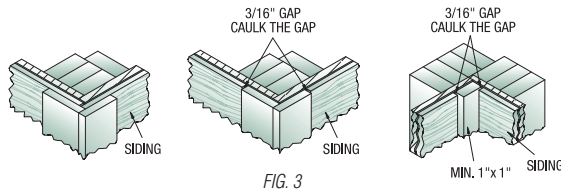

FIG. 3
- Gap the siding at all corners 3/16" and caulk. *See Fig 3.*
- When butting siding to inside or outside corners, use a minimum 4/4" thick (nominal) dry wood material. TruWood Trim is recommended. *See Fig 3.*